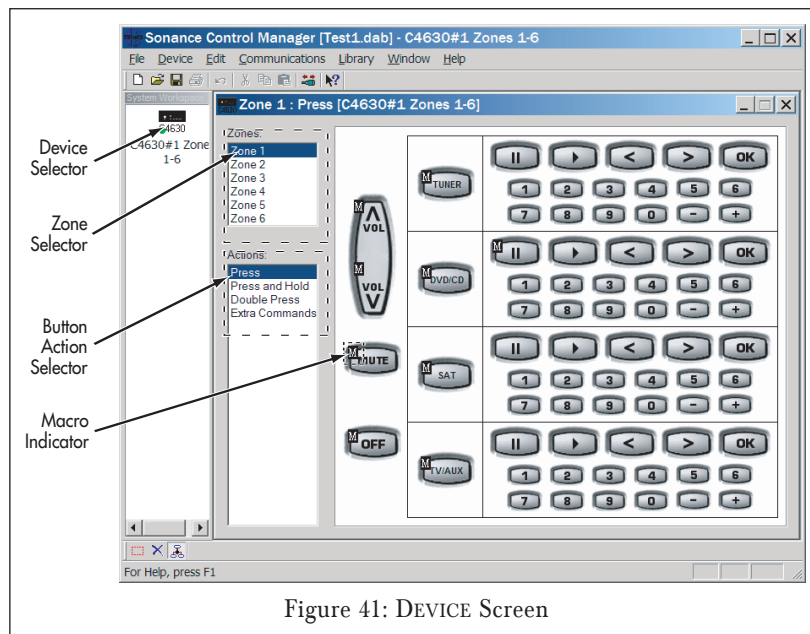
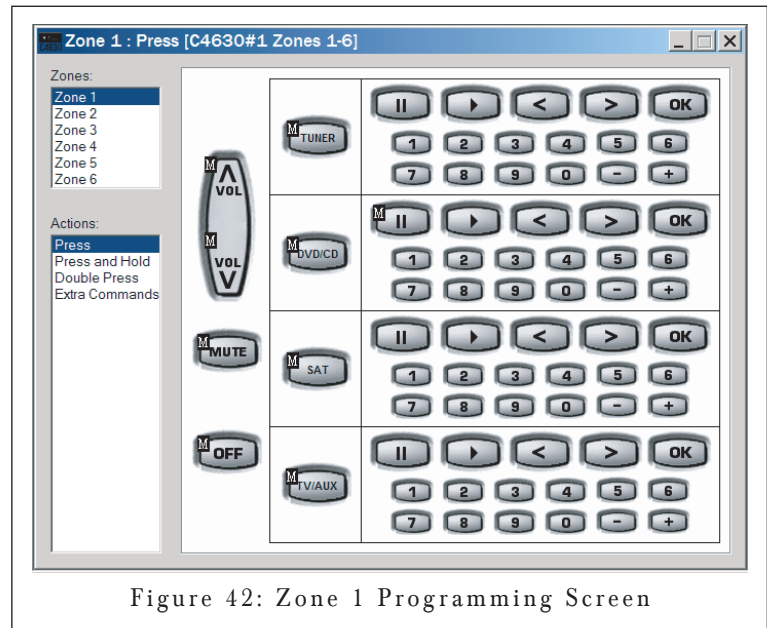

Figure 41: DEVICE Screen
Figure 42: Zone 1 Programming Screen
Device Screen (Figure 41)
1. Open the DEVICE screen (see *Figure 41*, on page 31).
2. If the system has more than one C4630 SE, use the DEVICE SELECTOR (see *Figure 41*) to select the one you want to program. The Zone 1 programming screen for that C4630 SE will appear (see *Figure 42*).
1. Open the system and select the C4630 SE. The Zone Programming Screen (Figure 42, on page 32) will appear.